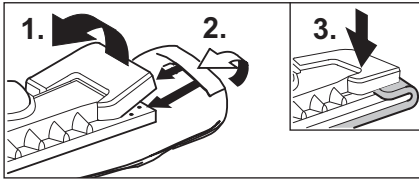

Figure 12: Attaching the floorcloth
- Attach the floorcloth (H3) to the floor nozzle (H1). Fold up the floorcloth lengthways, and place the floor nozzle on the cloth. Pull the jutting out ends of the floorcloths one after the other under the retaining clips (H2) (see Figure 12).